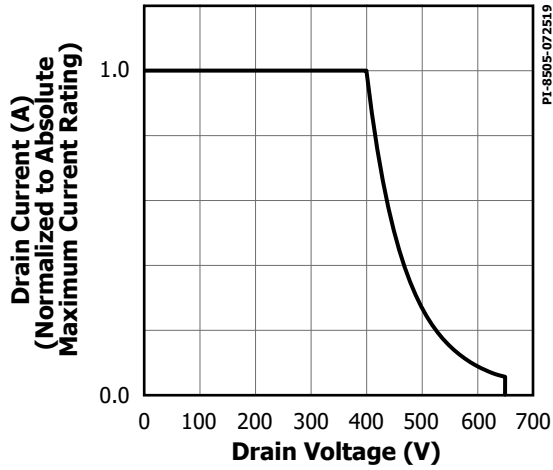

Figure 9. Maximum Allowable Drain Current vs. Drain Voltage.
- Please refer to Figure 9 about maximum allowable voltage and current combinations.